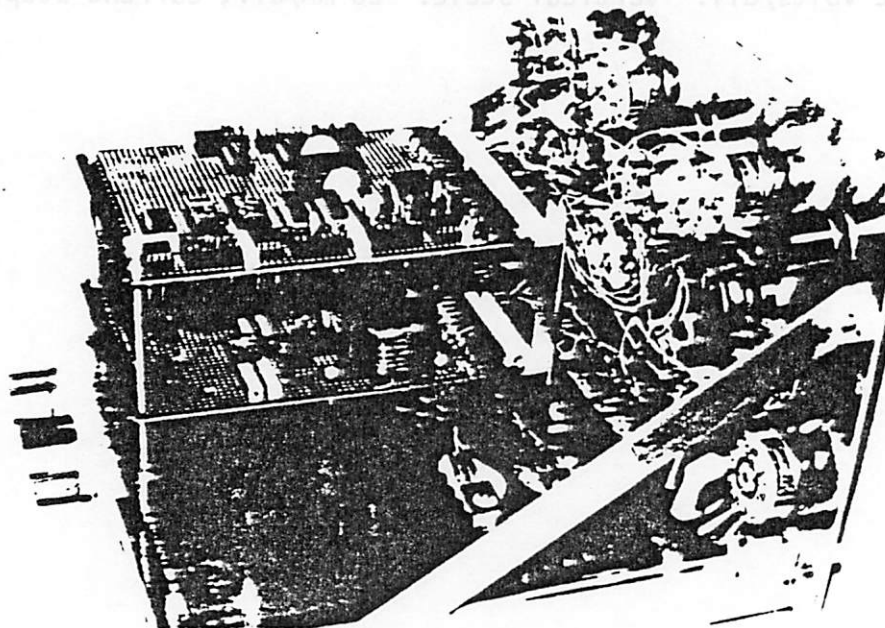

Fig. 2
- Fig. 2. Internal view of the curve tracer.